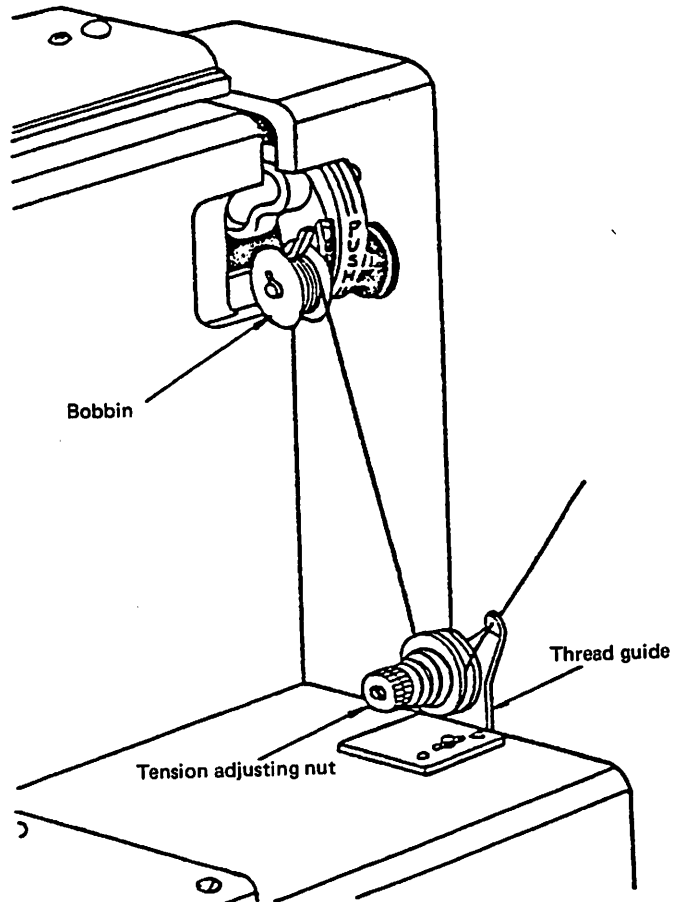

Fig. 9
- 4.7.1 Pass the thread drawn out from the cotton stand, as shown in Fig. 9.